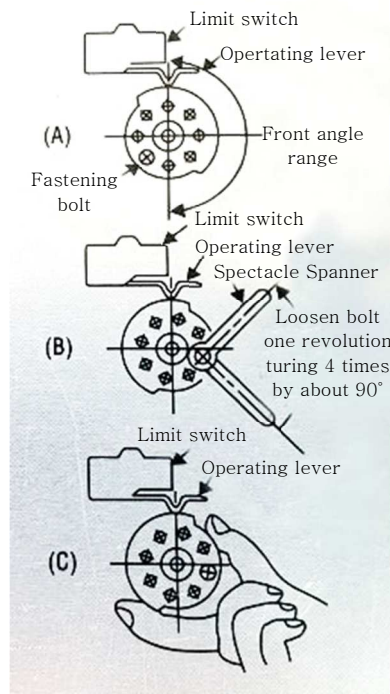

Fig.12 : Cam adjustment method
(3) Cam Adjustment Method
- a. Rotate cam shaft with manual or auto until “forward direction range” so that fixed bolt may be positioned in center. (Fig.12-A)
- b. As described in Fig.12-B use the tool or spanner when loosening fixed bolt one time, work 90 degree with 4 times, total turn it around and loosen. (if not full enough loosen or over-loosen, it is not so good. It will be sufficient to do exact turning it around one time only.)
- c. As described Fig.12-C, Cam must be hold firmly and turn it slowly so that it may be required to adjust.